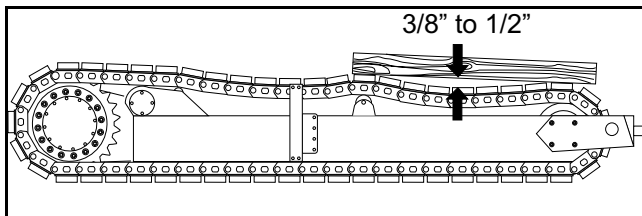

Figure 6 - 3 Proper Track Tension
- 5) A properly tensioned track should have a 3/8" to 1/2" gap between a straightedge and the track. (Figure 6 - 3)